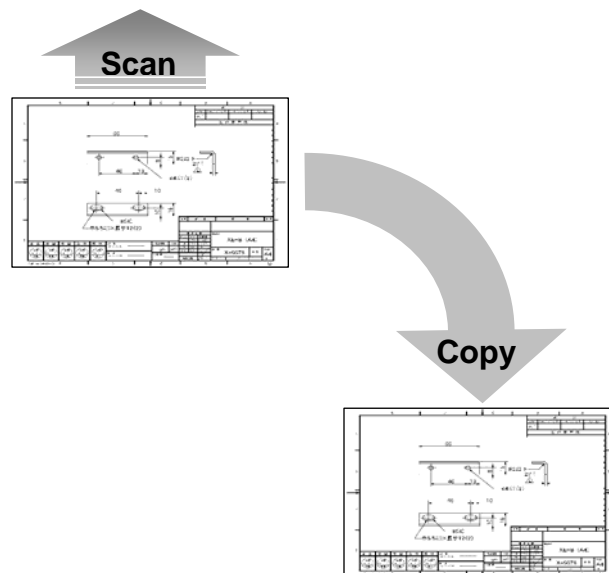

Figure 1
6. Insert the 24" x 36" document into the scanner in a landscape orientation (also known as Long Edge Feed or LEF, see Figure 1). It will pre-feed a short distance, pause briefly, then continue.